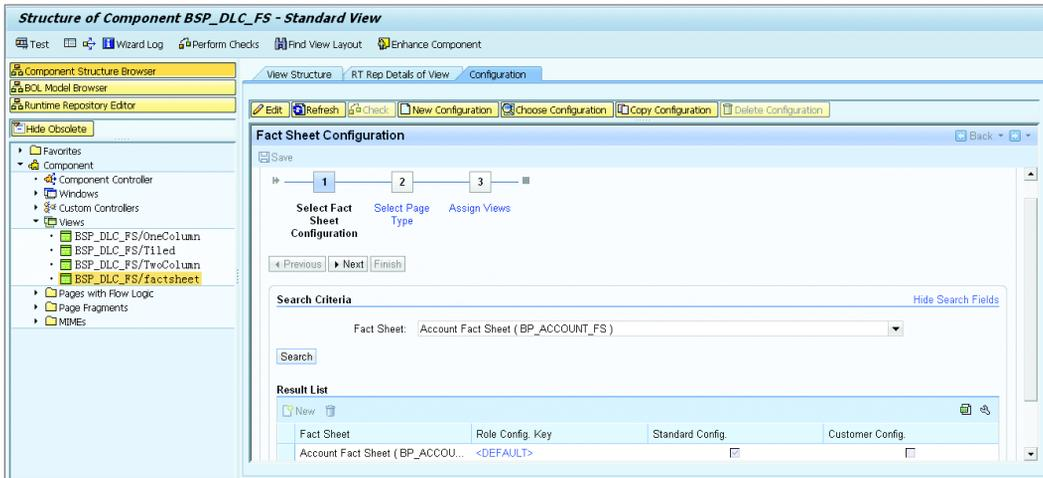

Figure 9.28 Fact Sheet Configuration
- Configure the fact sheet component BSP_DLC_FS by going to Transaction BSP_WD_CMPWB and selecting the view BSP_DLC_FS/FACTSHEET. Figure 9.28 shows the fact sheet configuration where you can choose your custom fact sheet or select the existing fact sheet, for example, ACCOUNT FACT SHEET BP_ACCOUNT_FS, and create the new configuration with your business role configuration key (ROLE CONFIG. KEY).